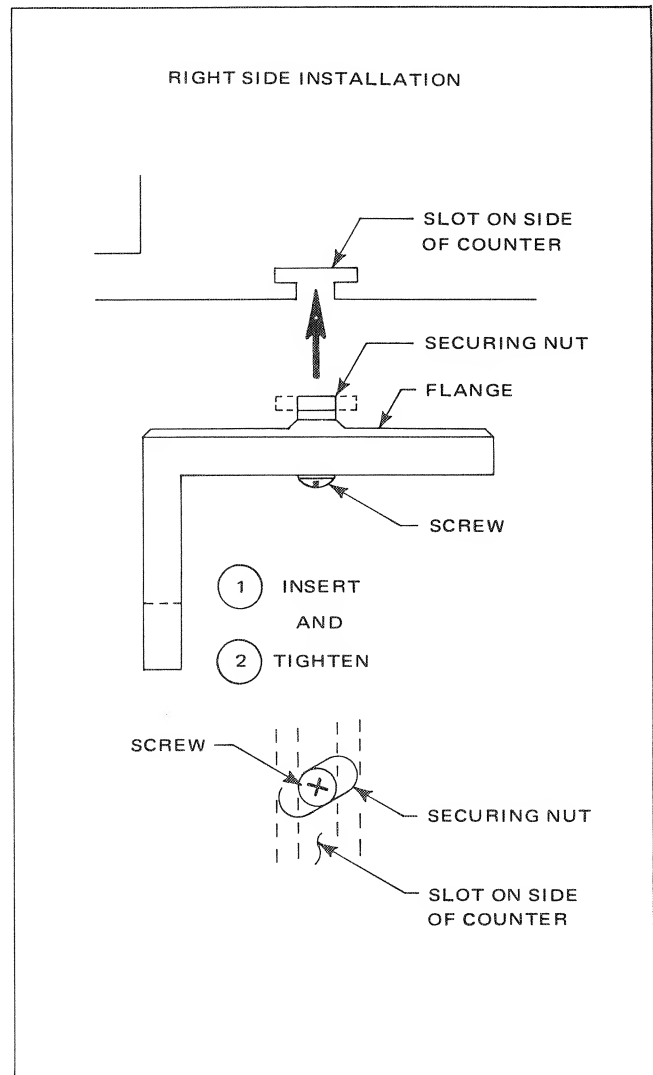

Figure 2.1 - Rack Mount Installation
- Place one of the supplied screws through each of the two holes in the mounting flange (figure 2.1). Thread a securing nut onto each screw just enough to attach it to the screw (approximately one turn).